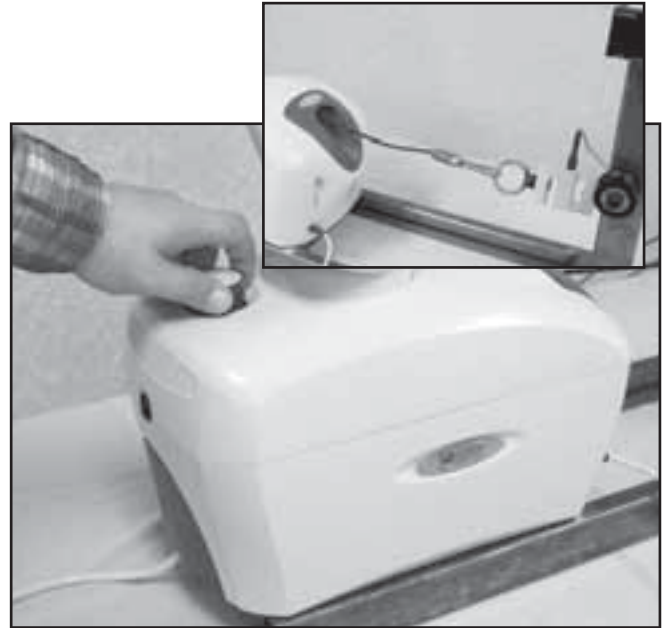

FIGURE 5.19
2. Secure unit to the Calibration Fixture. See Figure 5.19.
4. After unit is completely booted, press Cord Release on the Touch Screen and pull out enough Cord to connect Accessory Clip to the Load Cell. See Figure 5.19.